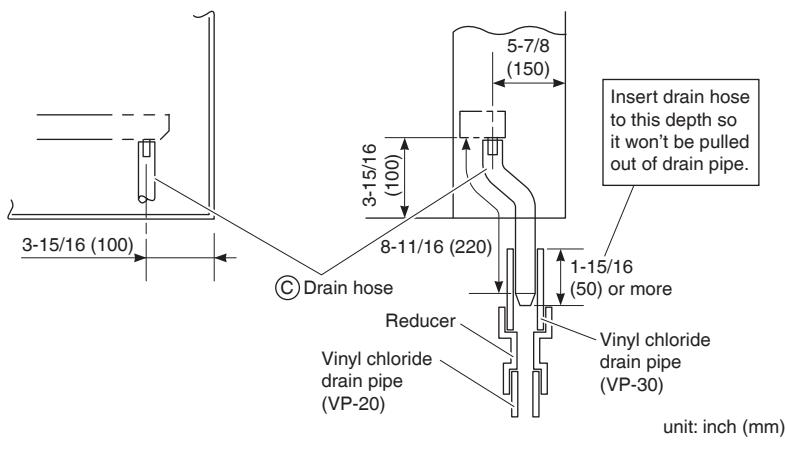

Fig. 1
- Perform drain piping work as outlined in the figure. (See **Fig. 1**)